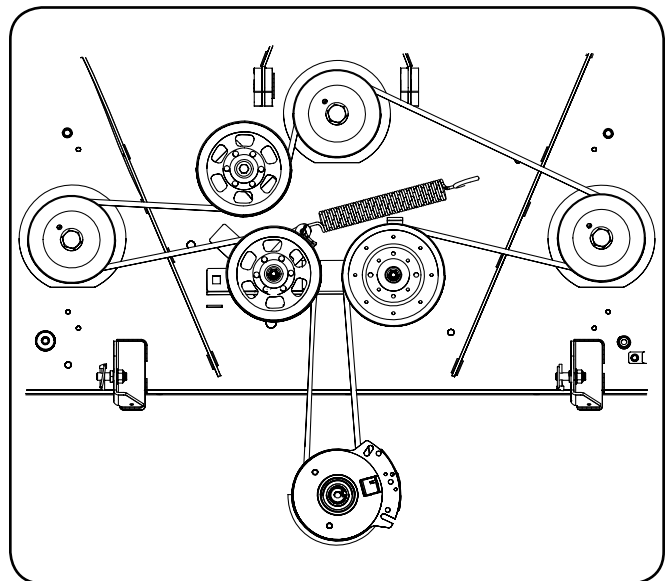

Figure 42
6. Place the belt around the idler pulleys removed in step 3 with the “V” side facing in. Once in place, reinstall all the hardware and tighten the flange lock nut to secure the assembly. See Figure 42.
7. Route the belt as shown in Figure 42 and then reinstall the deck (refer to Deck Installation).